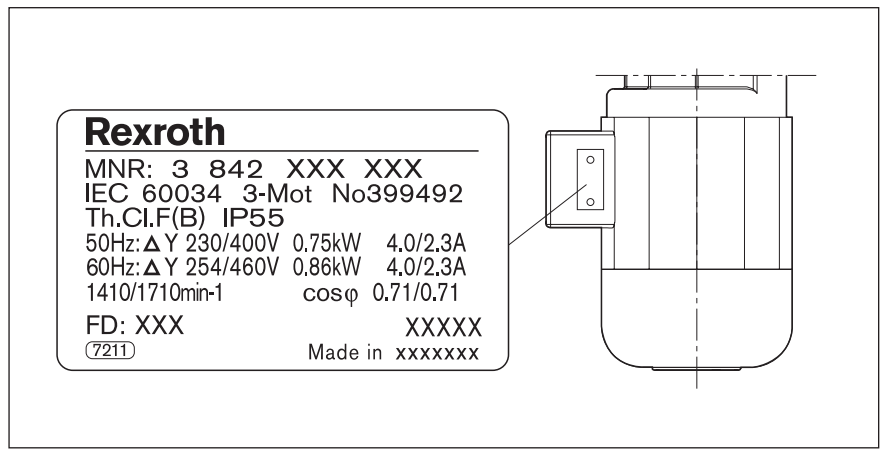

Fig. 7 Motor nameplate (example)
- The motor connection must be made according to the electrical connection values on the nameplate (Fig. 7).